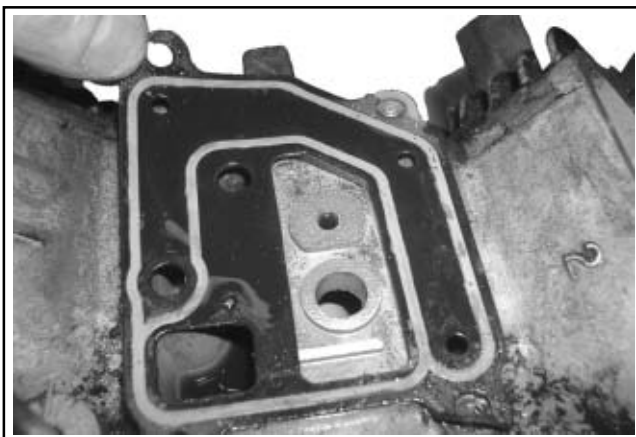

Figure 9-30. Removing Breather Cover Gasket.
5. Remove the breather cover and gasket (if used). See Figure 9-30.